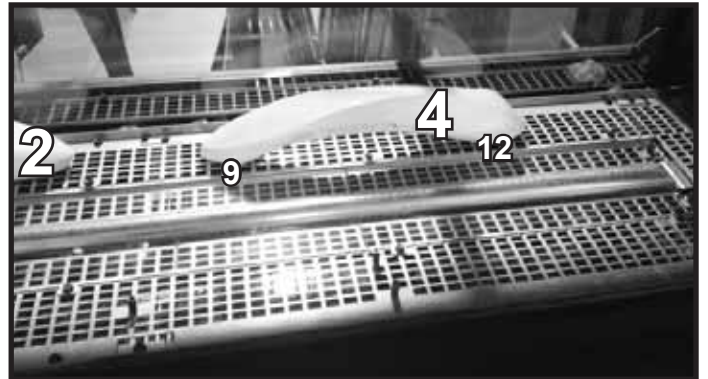

Figure 7. (SRV2310-754)
8. **(SRV2310-754):** Install Log #4 onto the shoulder screws by aligning the log placement holes with shoulder screws #9 and #12. See Figure 7.